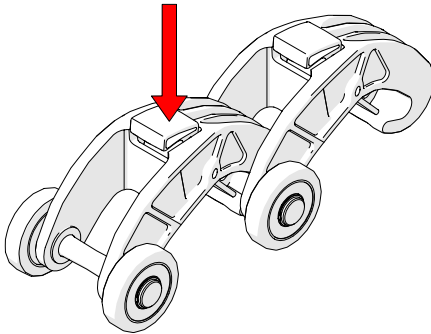

Fig. 57 - Press button
1. Press the button on the top of the QuickLink (Fig. 57).